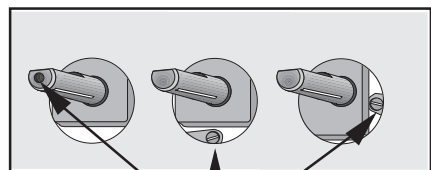

Fig. 2
- With a thin screwdriver, adjust the by-pass screw (see Fig. 2). If changing from natural gas 20/13 mbar to liquid gas, completely tighten the adjustment screw in. If changing from liquid gas to natural gas 20 mbar, undo the by-pass screw about 1/4 of a turn. If changing from natural gas 20 mbar to natural gas 13 mbar undo the by-pass screw about 1/4 of a turn. If changing from liquid gas to natural